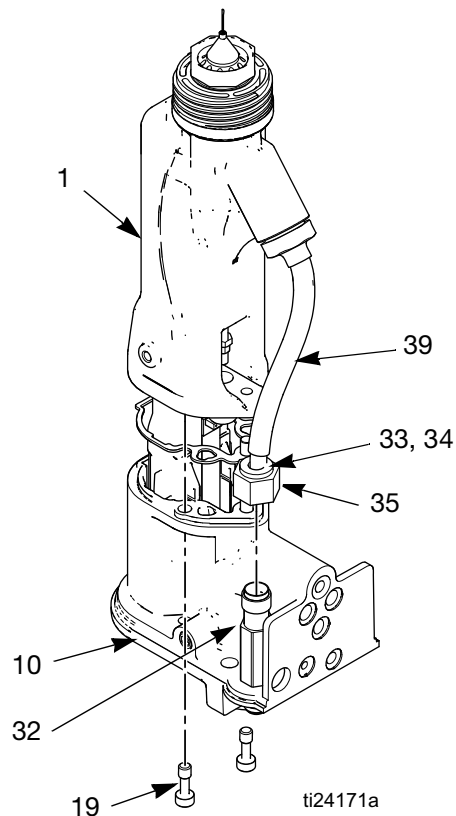

FIG. 26. Barrel Removal
3. Remove the gun shroud (26).
4. Carefully loosen the fluid fitting nut (35). Pull the tube (39) out of the fitting (32). Make sure both ferules (33, 34) and the nut stay with the tube. See FIGURE 26.
6. Loosen the two screws (19). See FIGURE 26.
7. Hold the gun body (10) with one hand and pull the barrel (1) straight off the body. See FIGURE 26.